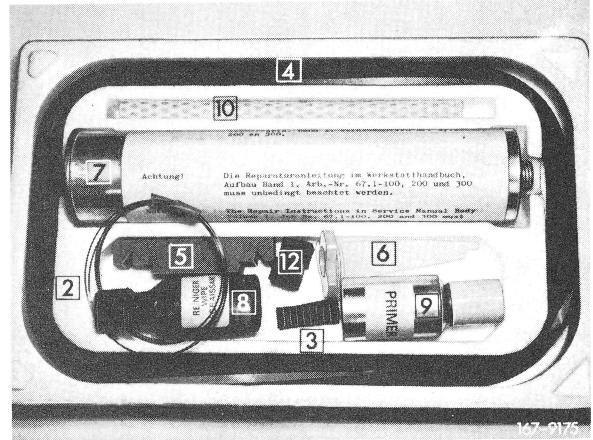

Fig. 8
For removal and installation of glued glass (panes), order **Repair Kit** for glueing (bonding) **107 586 00 67** from Spare Parts Department Sindelfingen (Fig. 8).
**13** Coat channel with cleaner (8) from repair kit (Fig. 8)
**18** Apply cleaner (8) from repair kit by means of enclosed paper cloth (10) to outer edge of windshield glass and permit to react for approx. 1 minute.
**19** Mount rubber lip (4) to edge of glass with short end (7 mm) of auxiliary tool (5).